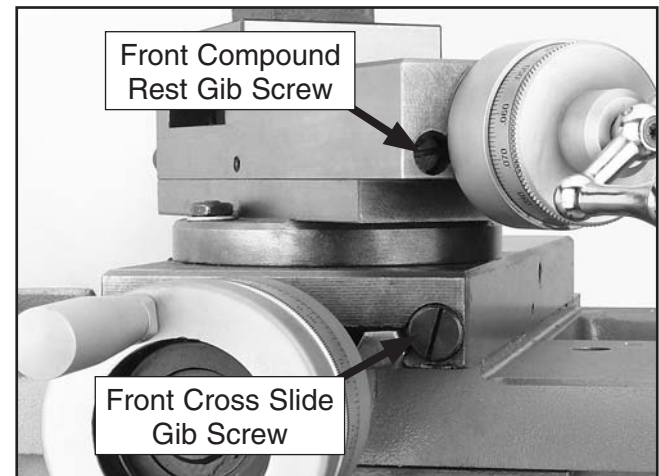

Figure 86. Front cross feed gib screw.
2. Tighten the front gib screw a quarter turn (see **Figure 86**).